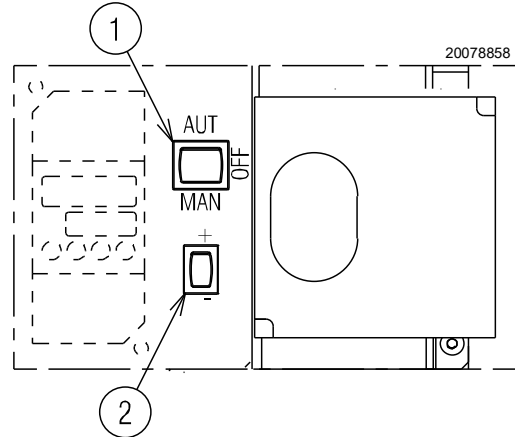
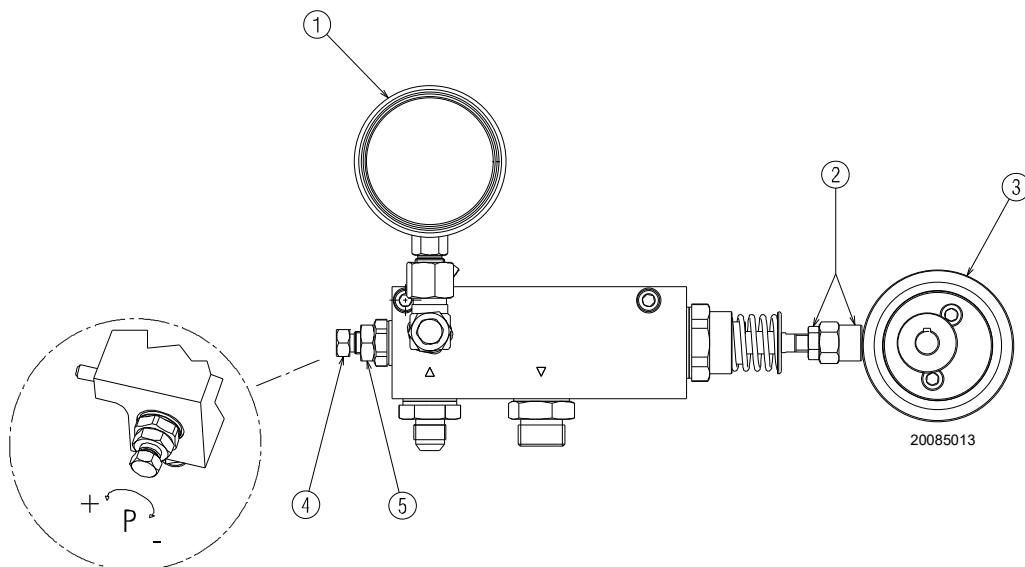
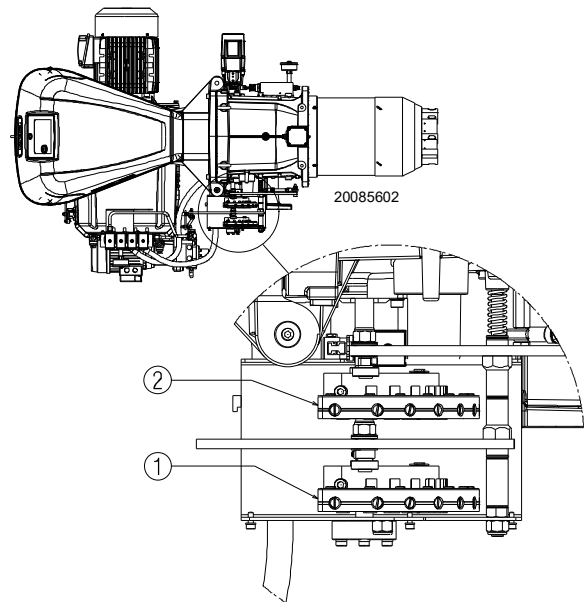
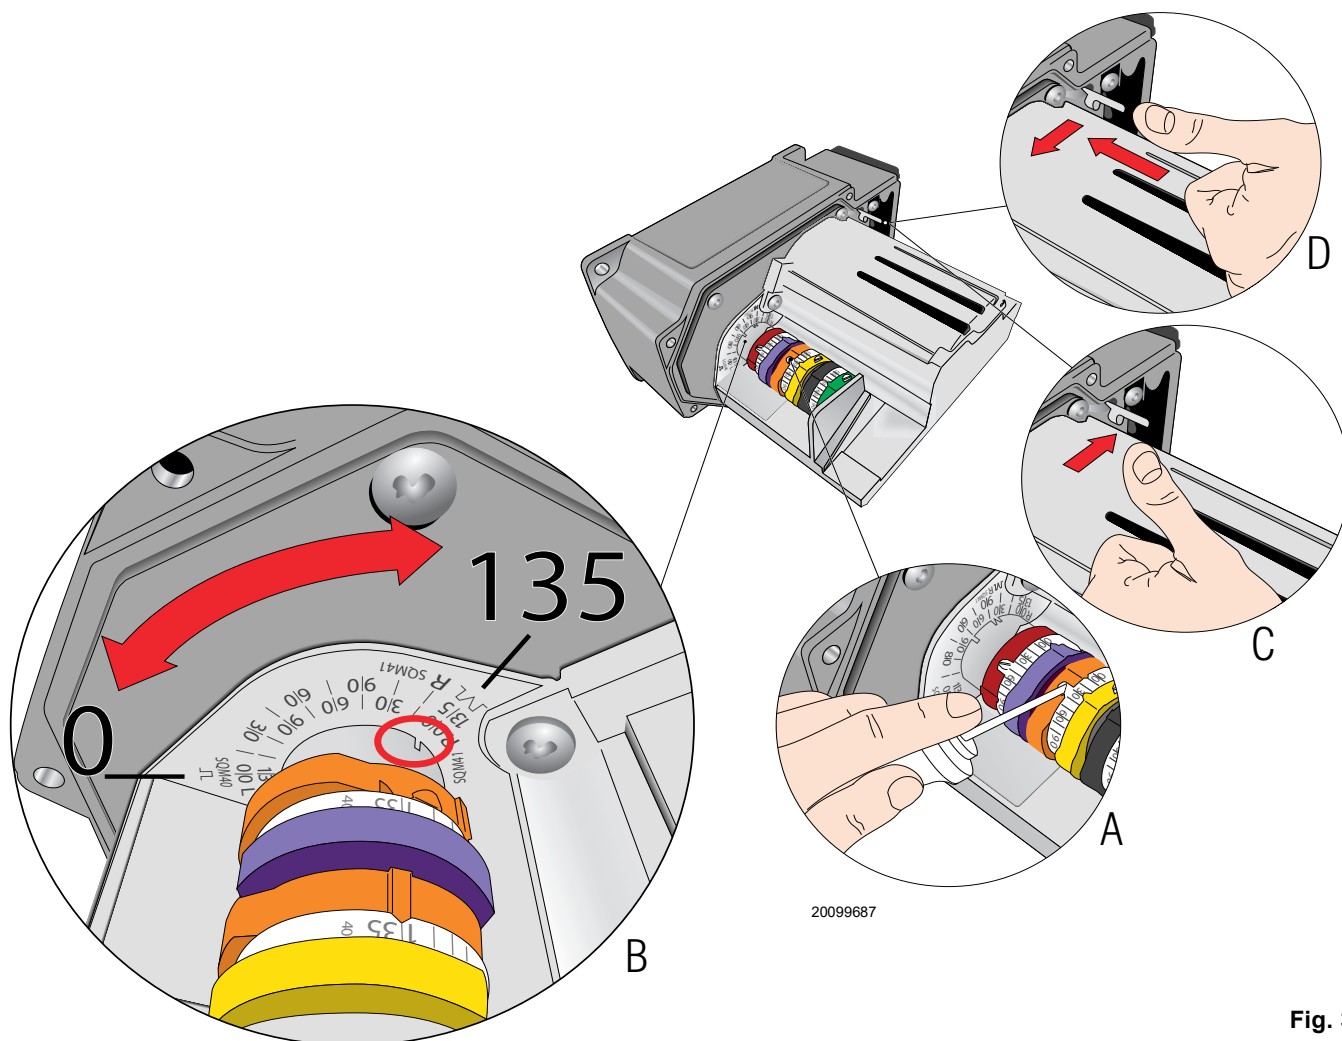

Fig. 27
Fig. 28
Fig. 31
Fig. 32
Close the thermostats/pressure switches and set the switch 1)(Fig. 27) to **MAN**.
- place the switch 1)(Fig. 27) to "OFF" and wait for the flame control to carry out the switching off phase;
Position the selector 1)(Fig. 27) on "MAN".
With the servomotor in the minimum output position, the nut and the corresponding lock nut 2)(Fig. 28), should be secured against the eccentric 3).
With the servomotor at its maximum opening, the eccentric will press the modulator spindle bringing the pressure, which can be read on the pressure gauge 1)(Fig. 28), to the desired value (maximum output).
Once the calibration is finished lock the lock nut 5)(Fig. 28).
if you use a 450 kg/h nozzle and you want to obtain an output of 4550 kW, the pressure on the pressure gauge 1)(Fig. 28) (maximum pressure on the return circuit) must be about 14 bar. The relative delivery pressure on the pressure gauge 1), must be 20 bar (see Tab. J on page 20).
Key (Fig. 28)
- Switch on the burner, with the selector on the control panel on manual 1)(Fig. 27 on page 28). At this point, after the pre-purge operation, the servomotor stops at the ignition position.
- Adjust the minimum return pressure to approx. 6 bar. To do this, the length of the spindle acting needs to be changed by using the nut 2)(Fig. 28 on page 29).
- Having performed this first adjustment, increase the output by means of automatic return selector 2)(Fig. 27 on page 28) on the control panel. Pause after a 15° rotation of the servomotor and carry out another adjustment using the variable profile cam of the air, cam 1)(Fig. 31 on page 32). It is recommended that a calibration be carried out that is sufficient not to create a smoky flame and that attains the maximum output as quickly as possible; using the screw 4)(Fig. 28 on page 29) adjust the pressure on the return line to obtain the desired output required by the nozzle, then go back and calibrate the intermediate points.
Adjust the servomotor to the maximum opening so that the air damper is fully open. To regulate the light oil, use the screw 4)(Fig. 28 on page 29) until the required output is obtained.
The passage from one position to the next one is obtained by pressing the selector 2)(Fig. 27 on page 28) on the symbol (+) or (-).
The fuel/combustion synchronisation is done by means of a servomotor connected to two variable profile cams, which act on the air dampers 1)(Fig. 31) and gas dampers 2)(Fig. 31).
On the gas butterfly valve, the choking of the fuel according to the required output, is carried out using the cam 2)(Fig. 31).
- Screw or unscrew the screw 2) of the mechanical cam (Fig. 31 on page 32) to increase or decrease the gas output so as to adjust it to the corresponding air output, to obtain optimal combustion.
Key (Fig. 31)
To adjust the cam of the servomotor, see Fig. 32 A).
Progressively adjust the initial profile of the mechanical cam 2)(Fig. 31), using the screws 2)(Fig. 31).
The regulation of the air is carried out by varying the angle of the cam III) of the servomotor Fig. 26 and by using the selector 2)(Fig. 27 on page 28). To adjust the cam of the servomotor, see Fig. 32 A).
To adjust the cam III) Fig. 26, see Fig. 32 A) and B).
Switch off the burner using the switch 1)(Fig. 27), OFF position, release the mechanical cam I) and II)(Fig. 29)(Fig. 31) to separate the gears of the servomotor, pressing and shifting downwards the button 3)(Fig. 32 D) and by manually turning several times the mechanical cam I)(Fig. 29) backwards and forwards check that the movement is smooth and without any hindrance.
We recommend binding the mechanical cams I) and II) again (Fig. 29)(Fig. 31) to the servomotor by shifting upwards the button 3)(Fig. 32 C).